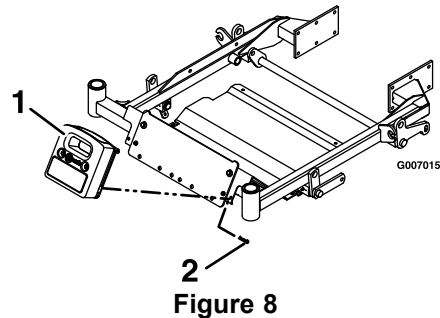

Figure 8
10. **For units with a 2 post ROPS installed:** Remove the hairpins and lift the front weight off of the mount plates (see Figure 8).